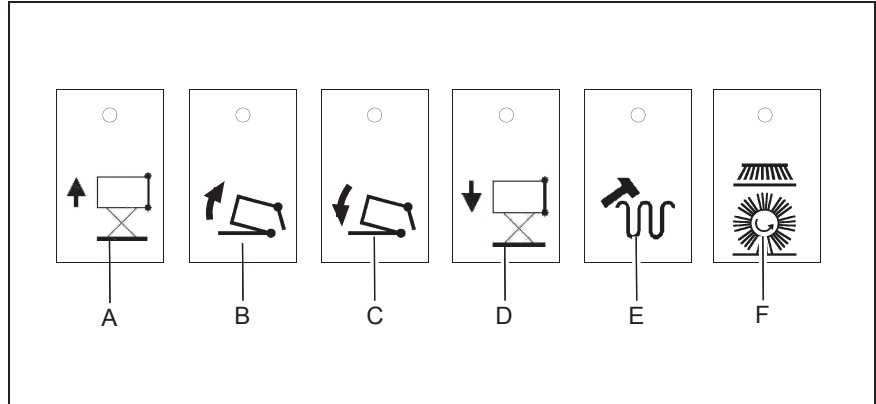

Fig.8
1. Switch off the sweeping functions with the button (Fig. 8/F). The filter agitating system is activated.
2. Agitate the filter too, if necessary. To do this, actuate the button (Fig. 8/E).
3. Raise the sweepings container. To do this, press and hold the button (Fig. 8/A) until the container is lifted to the height required.
4. Empty the sweepings container. To do this, press and hold the button (Fig. 8/B) until the sweepings container is pivoted vertical.
5. Pivot the sweepings container back again by pressing the button (Fig. 8/C).
6. Drive the Sweepmaster away from the garbage container and lower the sweepings container to its end position using the button (Fig. 8/D). The end position is detected and the sweepings container is automatically pivoted back, if necessary.